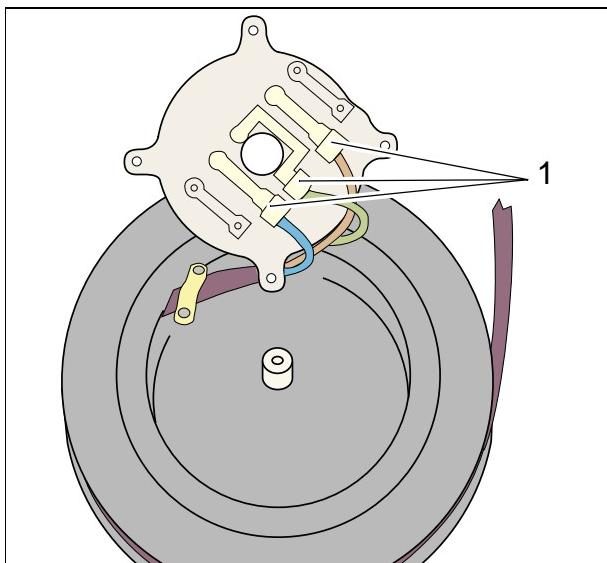

Fig. 7
- Remove connection plate and disconnect mains cable (pos. 1 / Fig. 7).